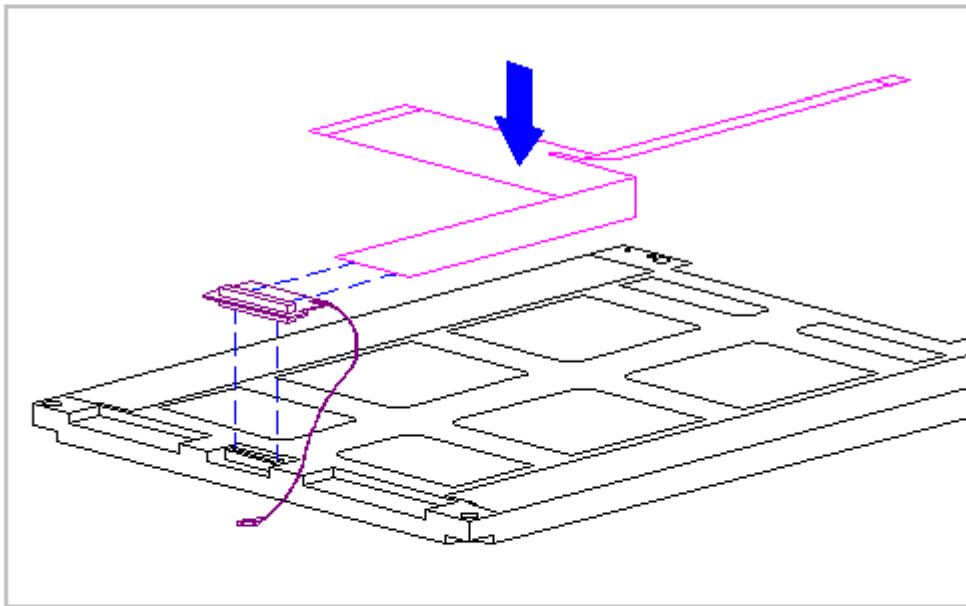

Figure 5-92. Replacing the Display Cable to the CSTN (10.4 in) Panel
2. Connect the display cable to the XOVER Board. Then connect the XOVER Board to the connector on the back of the panel (Figure 5-92).